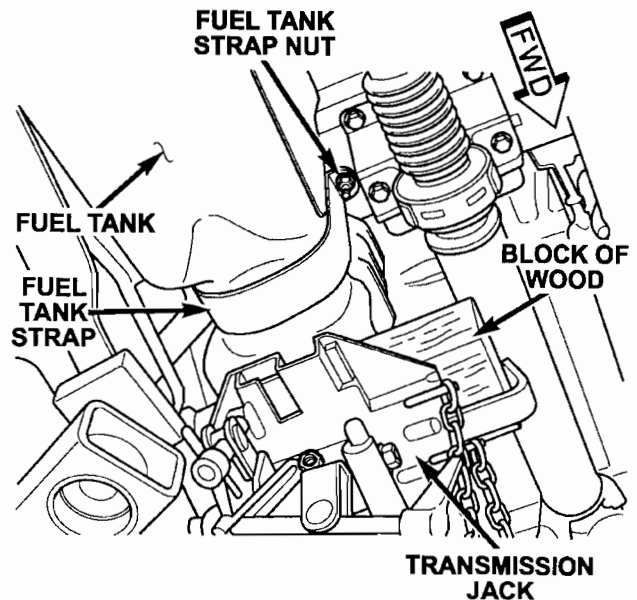

Figure 1 - View from Under Vehicle
2. Place a transmission jack under the front of the fuel tank to support the fuel tank (Figure 1).